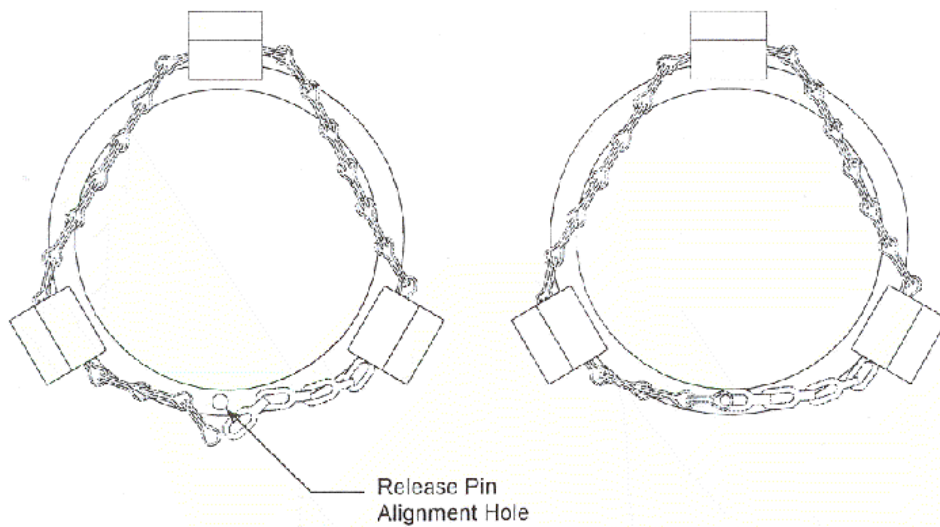

Figure 2 – Install Safety Chain
3. Take a piece of the supplied Safety Chain and wrap it around the compressed portion of the Spring Legs as shown in figure 2.